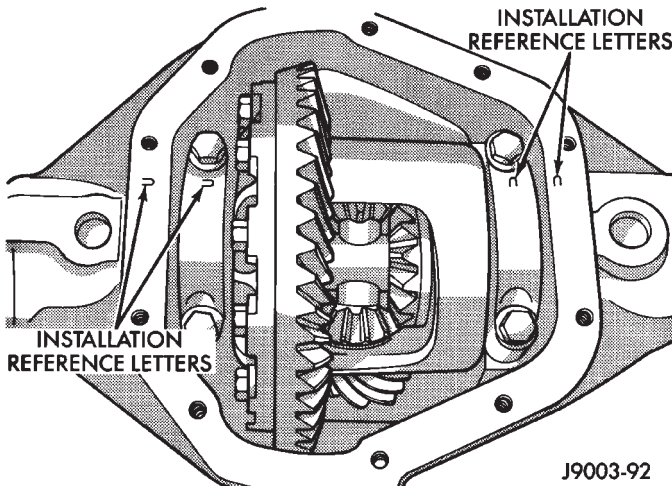

Fig. 17 Bearing Cap Identification
(1) Raise and support vehicle.
(2) Remove the lubricant fill hole plug from the differential housing cover.
(3) Remove the differential housing cover and allow fluid to drain.
(4) Remove axle shafts.
(5) Note the installation reference letters stamped on the bearing caps and housing machined sealing surface (Fig. 17).